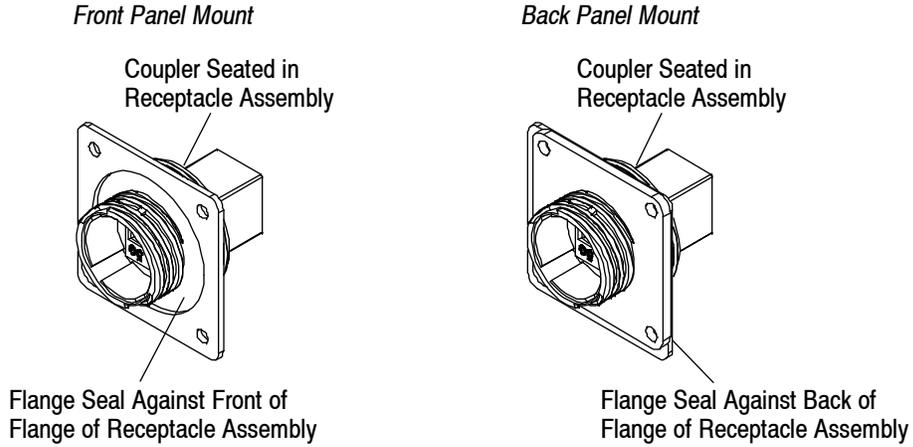

Figure 11
2. The flange seal must be flat against the flange of the receptacle assembly—fitted over the front (mating face) of the receptacle assembly for back panel mount or over the back of the receptacle assembly for front panel mount. Refer to Figure 11.